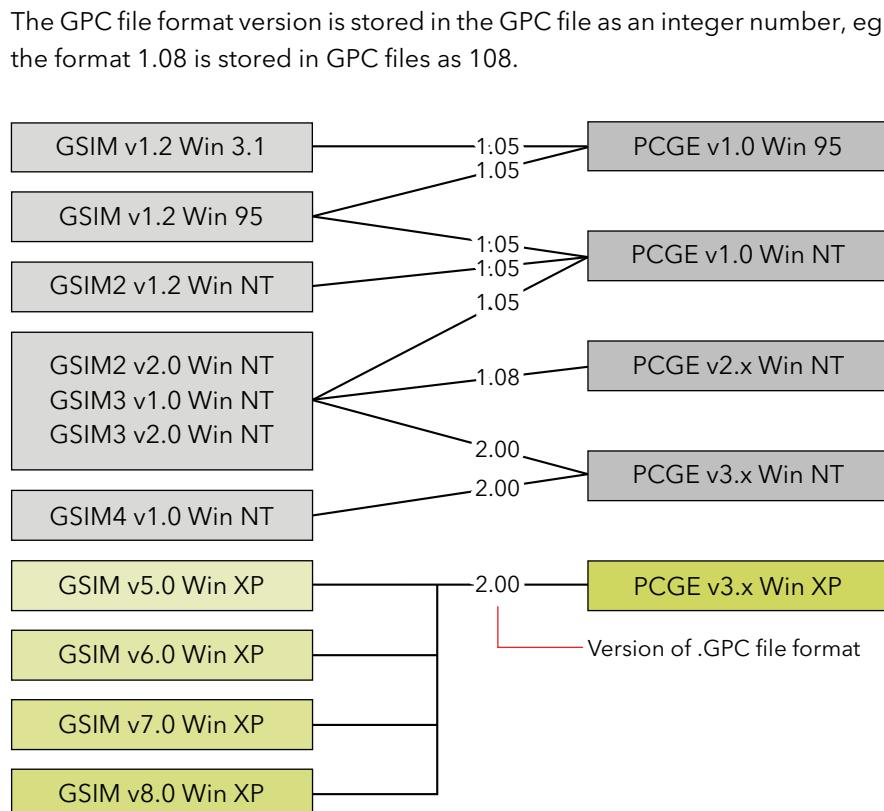

Figure 2.1 GSIM-PCGE compatibility
Each version of GSIM is compatible with only some versions of PCGE and its associated GPC file format—see figure 2.1.
- If the version is older than 1.08, upgrade it to 2.00 so that it is compatible with PCGE v 3.x (figure 2.1):